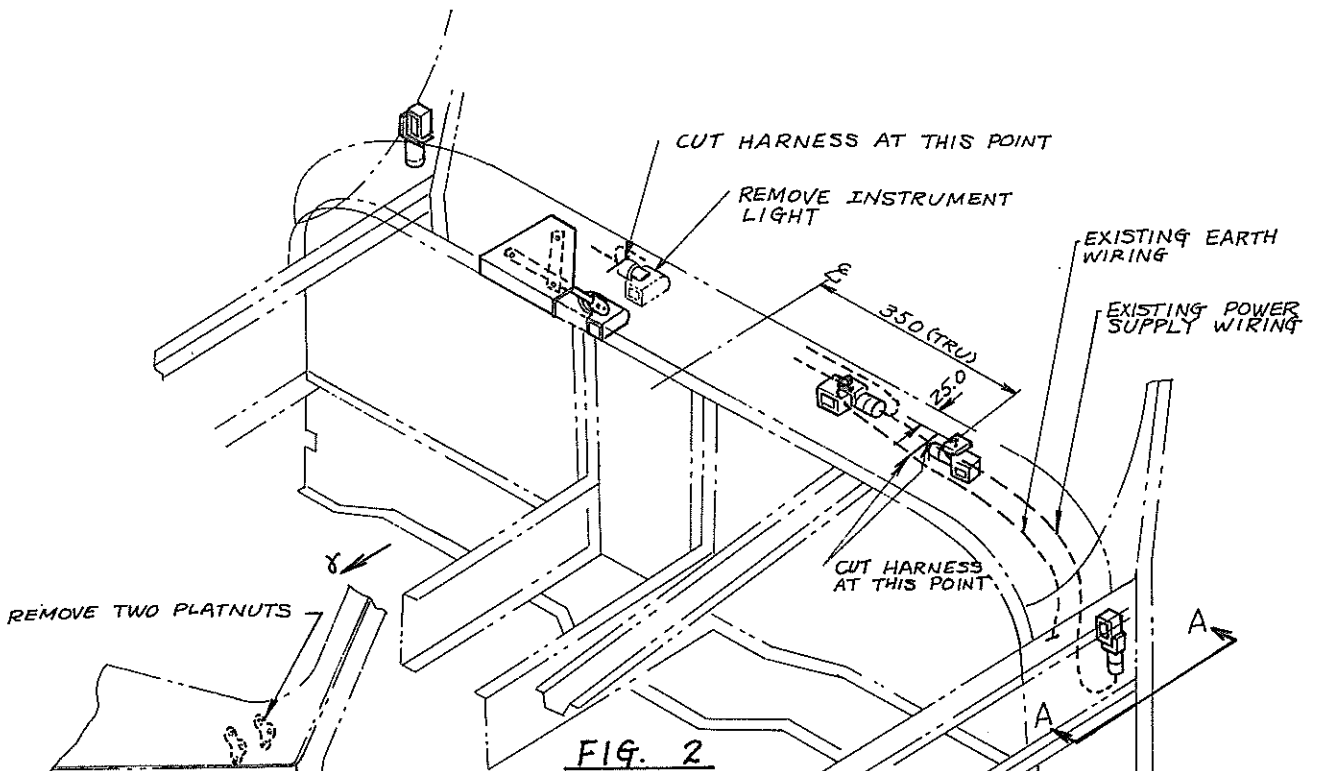

FIG. 2
- i. Drill two light installing holes in instrument cover as shown in figure 4, area G. For dimensions, refer to figure 2.
- j. Cut right side instrument light harness as illustrated in figure 2, and remove the instrument light. Temporarily position the above light in the place drilled in the preceding step 9.
- k. Power supply and earth wiring runs underneath the instrument cover. Cut the harness as illustrated in figure 2.